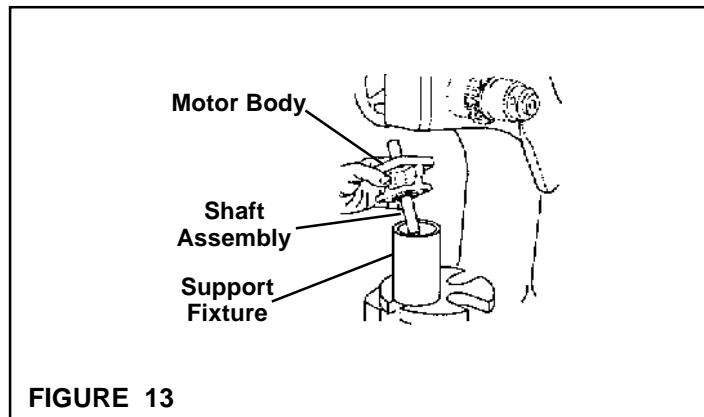

FIGURE 13
3. Place the Motor Body in a Support Fixture with the threaded portion of the Shaft inside the Support Fixture; then, using an Arbor Press, press the Shaft Assembly out of the Motor Body (See Figure 13).